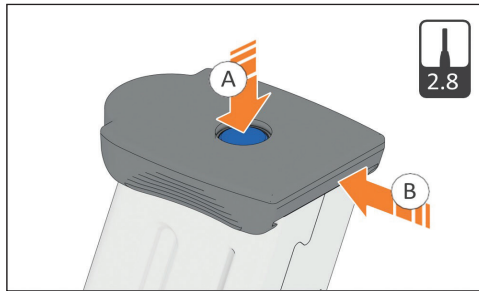

Figure 36 – Slide magazine floor plate forward
1. Using pin punch, push in magazine locking plate (A) and slide magazine floor plate forwards slightly (B) (Fig. 36).